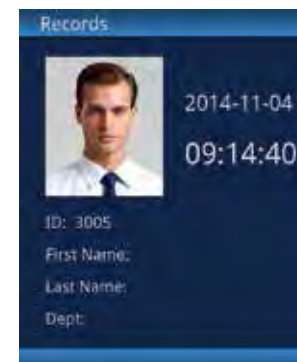

Fig 4.06-1
- e) Touch **OK** to view the Verification Record. *(Fig 4.06-1)*